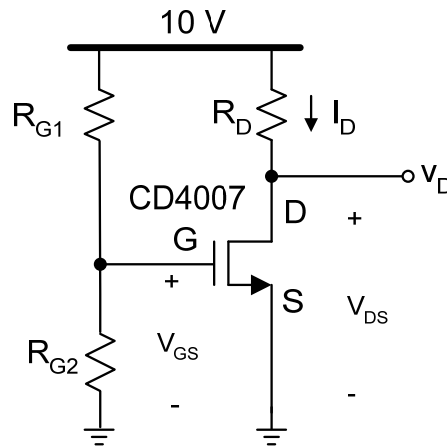

Fig. 2. MOS transistor circuit
1. For the circuit in Fig. 2, using the parameters you extracted from the previous lab for the CD4007, calculate all resistor values and unknown voltages such that  $I_D=1\text{ mA}$  and  $V_D = 5\text{V}$ .
4. Construct the circuit in Fig. 2 in Pspice and find the small signal parameters  $r_{ds}$ , and  $g_m$ . Compare SPICE results and hand calculations. Explain any differences.
1. Connect the circuit in Fig. 2 using the resistor values you calculated in the pre lab.